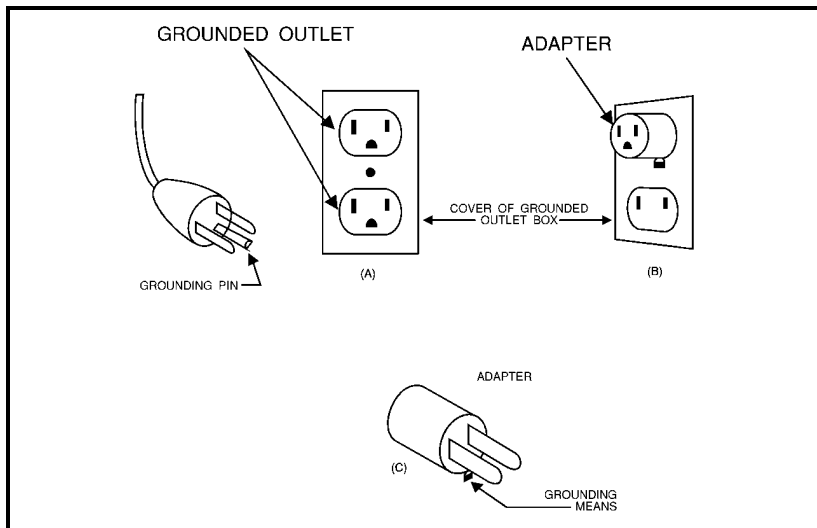

Figure 1 - Grounding Methods
15. The Rapid charger 120 Vac line cord has a grounding plug that looks like the plug illustrated in Figure 1. A temporary adapter, which looks like the adapter illustrated in sketches B and C, may be used to connect this plug to a two-pole receptacle as shown in sketch B if a properly grounded outlet is not available. The temporary adapter should be used only until a properly grounded outlet can be installed by a qualified electrician.